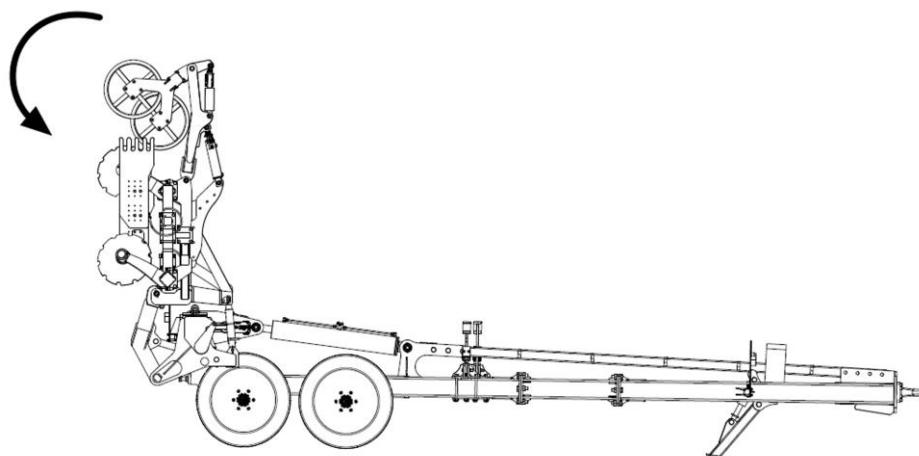

Figure 40 Unfolding the machine wings to a horizontal position.
- 5) Continue unfolding the machine arms to the horizontal position (fig. 40 and 41),